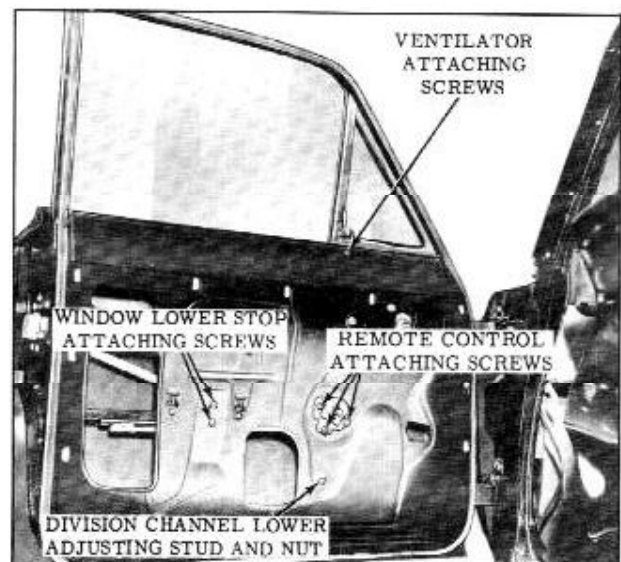

Fig. 15-30 Front Door Ventilator and Remote Control Attachment
3. Remove screws securing remote control assembly to door inner panel. Pull remote control away from door inner panel; then rotate remote control assembly one quarter turn to disengage connecting link from remote control assembly. Remove remote control assembly and connecting link from door. (Fig. 15-30)
4. Carefully lower door window to extreme down position. Remove three door window frame to ventilator attaching screws and one inner panel to ventilator attaching screw. (Fig. 15-30)
1. To adjust ventilator division channel in or out or fore or aft, remove door trim assembly and detach inner panel water deflector sufficiently to loosen division channel lower adjusting stud nut. (Fig. 15-30) Adjust stud in or out as required or position channel fore or aft as required; then tighten stud nut. Seal water deflector and install door trim and inside hardware.
- To adjust the lower portion of the ventilator division channel in or out or fore or aft, lower door window and loosen ventilator division channel adjusting stud nut. (Fig. 15-30) Turn adjusting stud in or out or position lower end of channel fore or aft as required; then tighten stud nut.